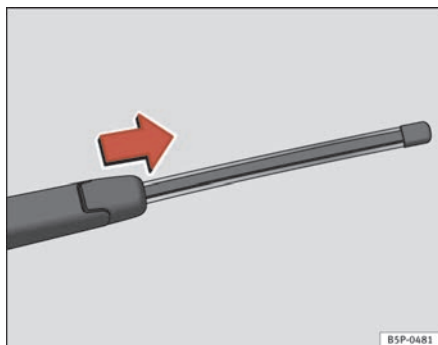

Fig. 163 Remove rear window wiper blade
- Lift the wiper arm away from the glass ⇒ page 227, fig. 163
- Slide the blade adapter in the direction of the arrow and remove the blade ⇒ page 227, fig. 163.